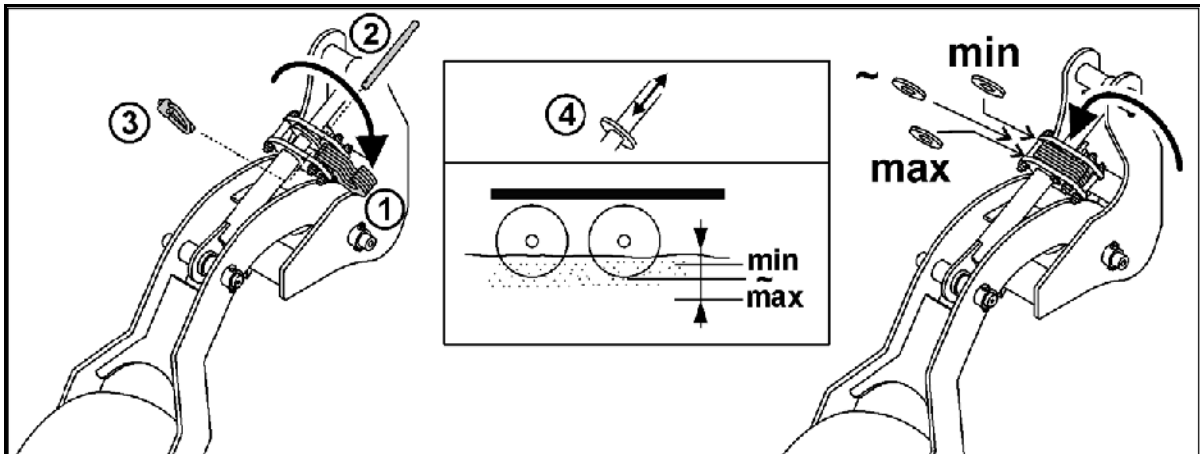

Fig. 26
Before making the adjustment, pull the fastening bolt (Fig. 26/2).
After the adjustment, hold the spacer elements (Fig. 26/1) in place using the fastening bolt and secure them using the clip pin (Fig. 26/3).
2. Swivel out the rear spacer elements (starting with both stop washers (Fig. 26/4) on both booms).
2. Swivel out the front spacer elements (starting with both stop washers (Fig. 26/4) on both booms).